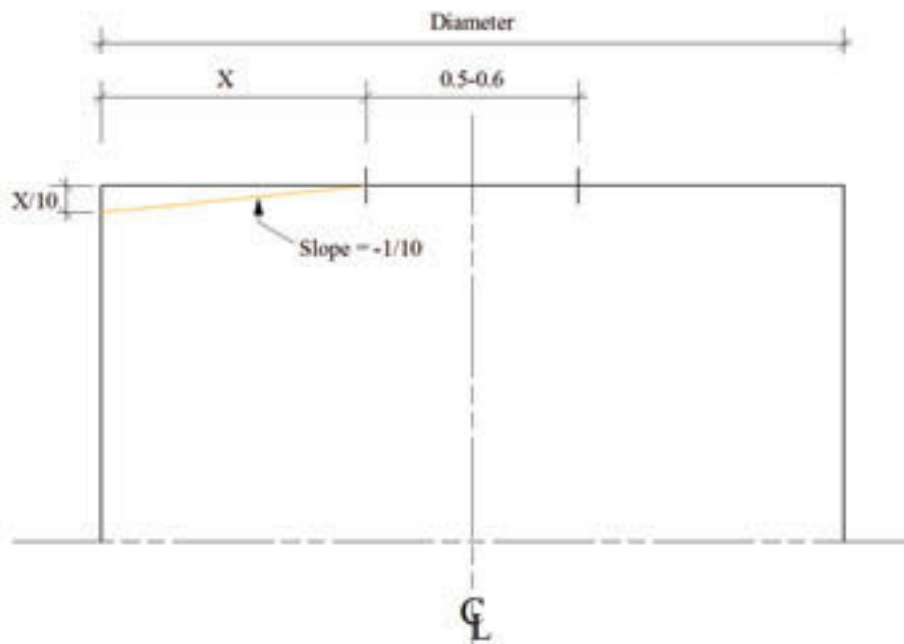

Fig. 76: Tank shape, top — Step 2
2. Draw the top of the tank; it slopes down 1–2 cm for every 10 cm of distance (slope = $-1/10$) (figure 76).